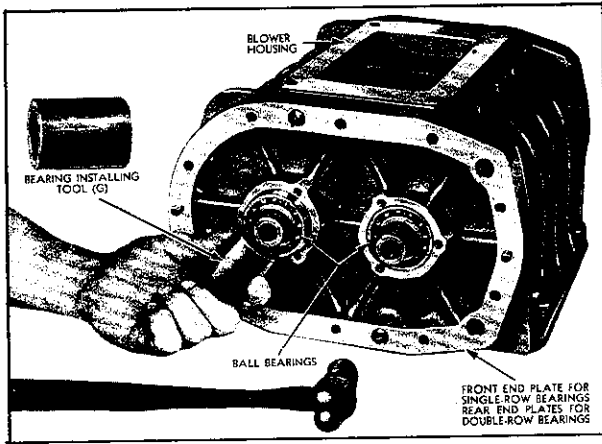

Fig. 15—Installing Blower Rotor Shaft Bearings into End Plates.
(b) Using tool (G) shown in Fig. 15, tap bearings into end plates.